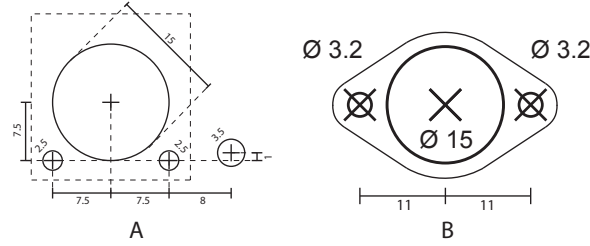

Figure 2: Location of holes for the two configurations
(B) requires three holes to be drilled for the midi socket. See figure 2 for mechanical drawings.